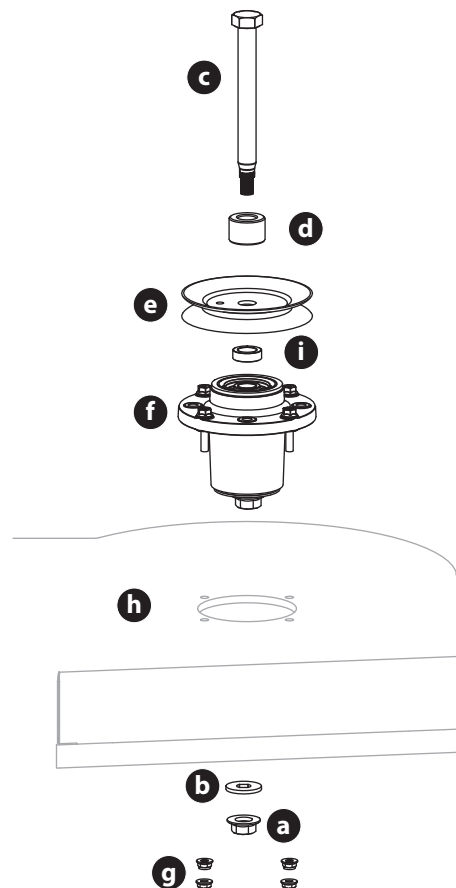

Fig. 48
6. To remove the spindle assemblies (Fig. 48):
- c. Remove the four (4) flange lock nuts (g) securing the left and right spindle assemblies (f) to the deck shell (h).
7. Reverse the process to install the spindle assemblies. When installing the new spindle assembly be sure to install the hardware exactly as shown (Fig. 48). Torque the flange lock nuts to 13-20 ft-lbs (18-27 Nm).